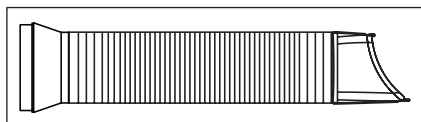

Fig. 3
1. Extend either side of the hose (Fig. 3).